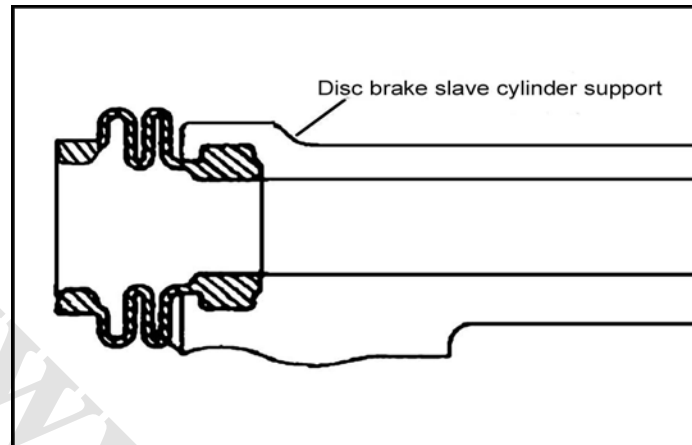

Fig. 2-52
7) Remove the dustproof cover of the front disc sliding pin. Remove the 2 dustproof cover from the support of the slave cylinder of front disc brake. See Fig. 2-52.